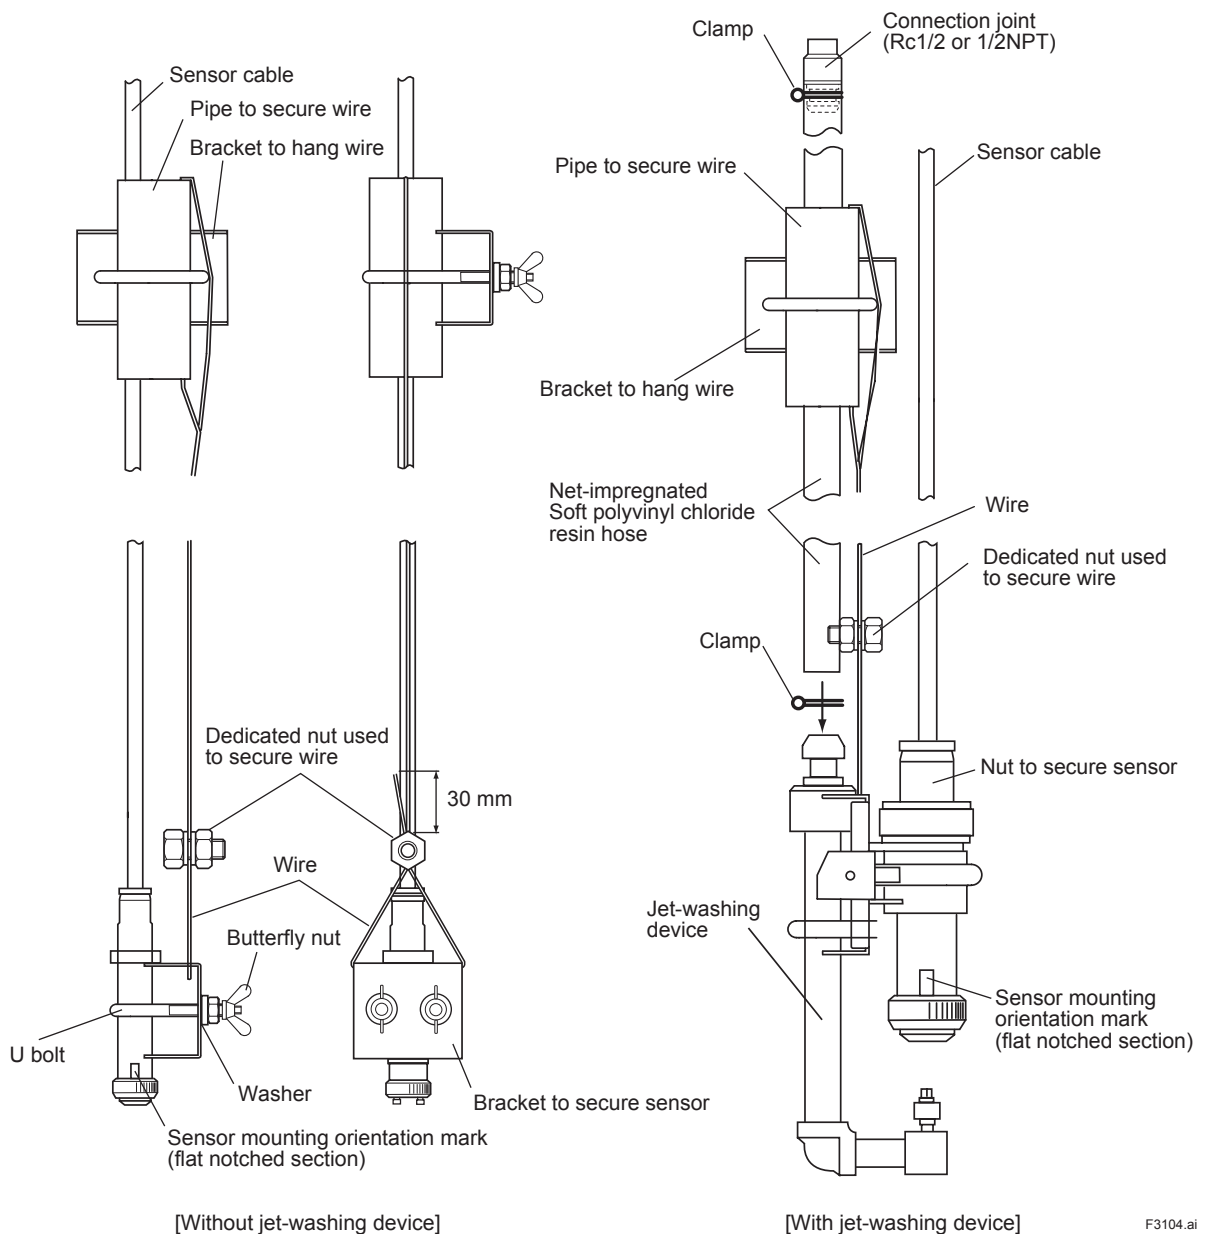

Figure 3.4 Incorporating the Sensor
- (4) As shown in Figure 3.4, incorporate the sensor in the securing bracket or cleaning device and pass one end of the wire through the securing bracket and secure it with the dedicated nut.
- (5) To attach a jet-washing device, connect it to the attached net-impregnated soft polyvinyl chloride resin hose and use a clamp to secure it. Pass one end of the hose through the wire securing pipe and then connect it to the attached connection joint and secure it with a clamp (see Figure 3.4). With other than the jet-washing device, pass the sensor cable through the wire securing pipe.
- (6) Once the sensor is hung, attach the wire hanging bracket at any position on the drop-in mounting bracket and use the U bolt to secure it. When performing sensor maintenance, loosen the butterfly nut of the wire hanging bracket and remove the sensor together with the hanging bracket.